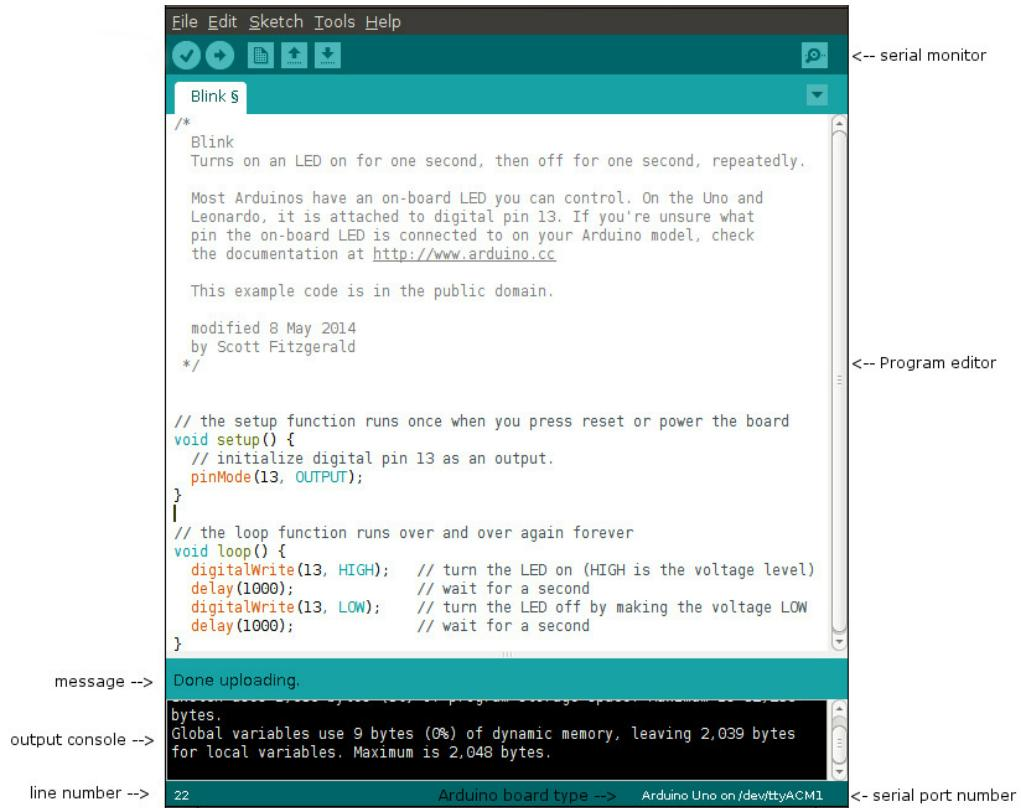

Figure 3.4: Arduino IDE
The Arduino development environment, as shown in Fig. 3.4, consists of a text editor for writing code, a message area, a text console, a toolbar with buttons for common functions, and a series of menus. It connects to the Arduino hardware to upload programs and communicate with them.
6. Serial Monitor: Opens the serial port window - the location of this is shown in the top right hand corner of Fig. 3.4
Arduino IDE and upload it to Arduino Uno. Once the upload is successful, you should expect a message in the bottom of Arduino IDE as shown in Fig. 3.4.